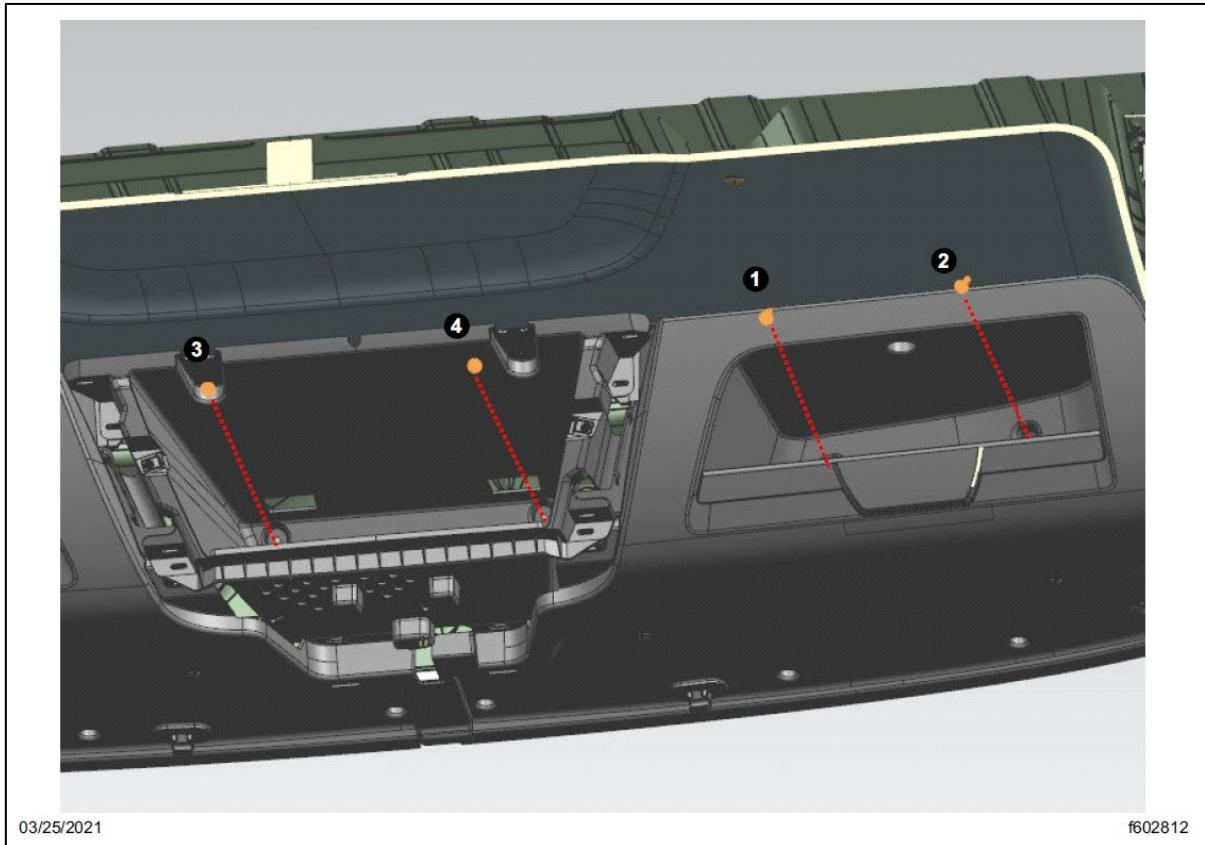

Fig. 29, Install Fasteners That Attach the Center Storage Bin and the RH Side Overhead Storage Assembly to the Cab Roof
7.4. Install the fasteners that attach the center storage bin and the RH side overhead storage assembly to the cab roof. Tighten the fasteners 11 to 13 lbf.ft (14 to 18 N.m) as per the sequence shown in **Fig. 29**.